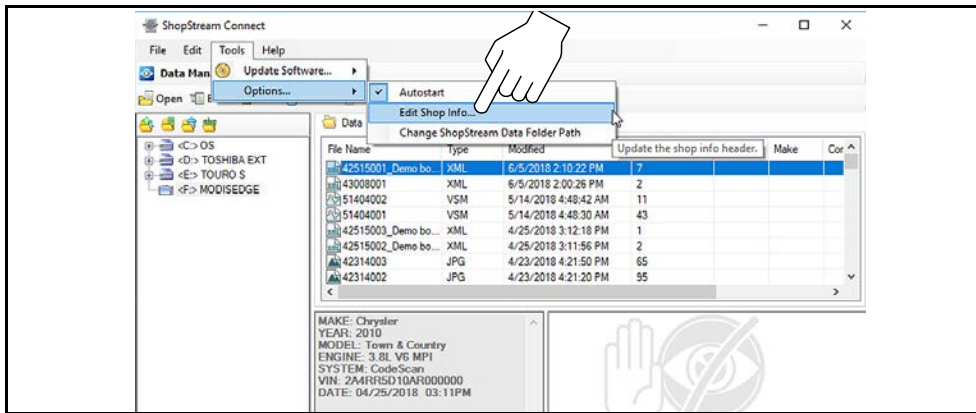

Figure 16-8
1. From ShopStream Connect, select **Tools > Options > Edit Shop Info** (Figure 16-8).